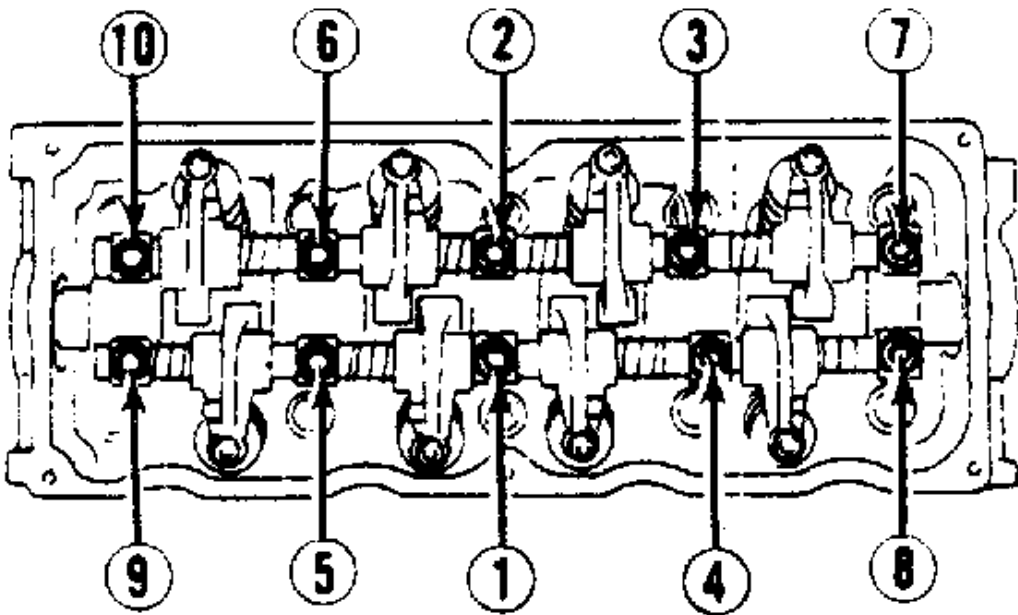

Fig. 5: Rocker Arm Shaft Tightening Sequence (1.3L)
2. While tightening rocker arm shaft, slide shaft springs away from retaining bolt to prevent pinching spring. Tighten rocker arm shaft bolts in sequence and to specification. See **Fig. 5** . See **TORQUE SPECIFICATIONS** table at end of article. To complete installation, reverse removal procedure. Tighten all bolts and nuts to specification.